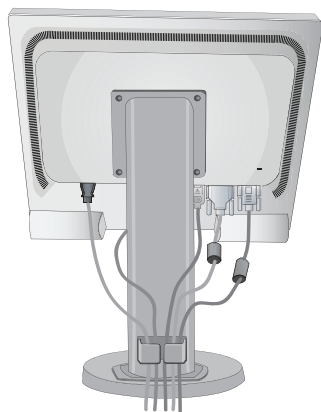
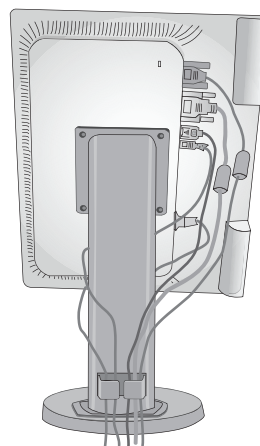

Figure B.2
Figure B.3
5. Position the Video Signal Cable and power cord between the holes on the Stand, as indicated in **Figure B.2/Figure B.3**.